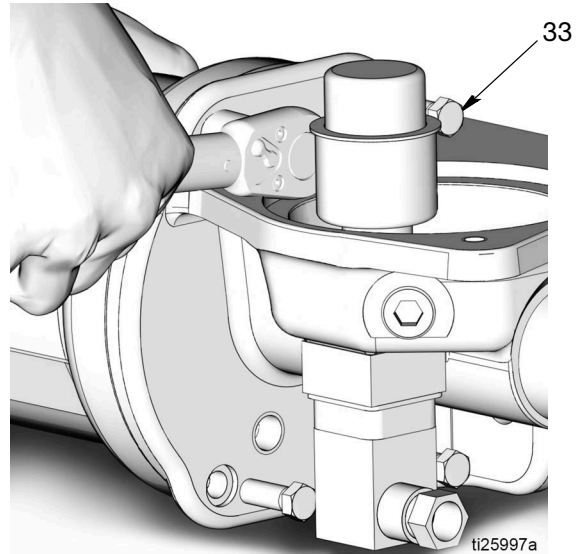

FIG. 53
- c. Install 4 new bolts. Hand tighten the bolts (33) evenly, each one a little at a time in a diagonal pattern. Then torque diagonally to 10-13 ft. lbs. (13.5-17.6 N•m). See FIG. 53.